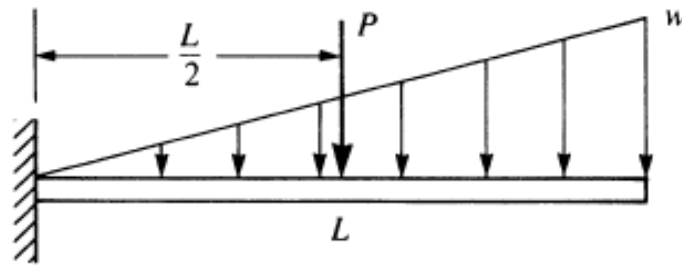

Figure 6
4. For the beam shown in Figure 6, subjected to the concentrated load P and the linearly varying line load w , determine the free-end deflection and rotation and the reactions. Use the equivalent load replacement method. Let EI be constant throughout the beam. (10)